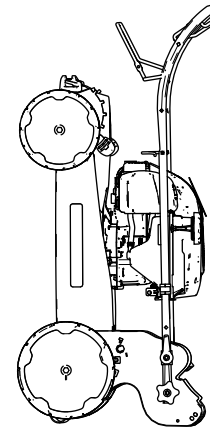

Figure 16
4. Lift the front of the machine by the handle and move it into a storage space (Figure 16).